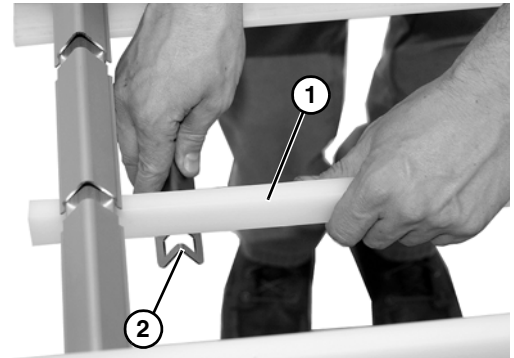

Figure 32
1. Remove return strips (**Figure 32, item 1**), from brackets (**Figure 32, item 2**).